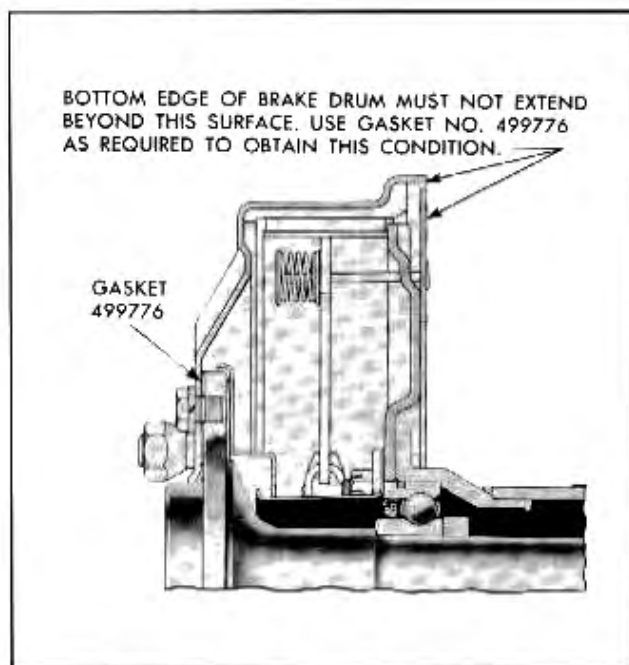

Fig. 4-7 Correct Alignment of Brake Drum Flange
11. Install brake drum and wheel. NOTE: When installing brake drum, check to see that edge of drum flange is even with shield on the backing plate as shown in Fig. 4-7. If flange extends over shield, install sufficient gaskets between axle flange and drum to obtain correct alignment.